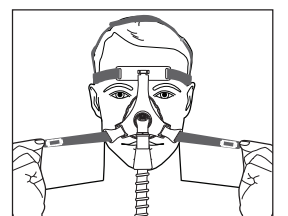

Figure 7
- c) For leaks around the top lip, adjust the lower straps (Figure 7).